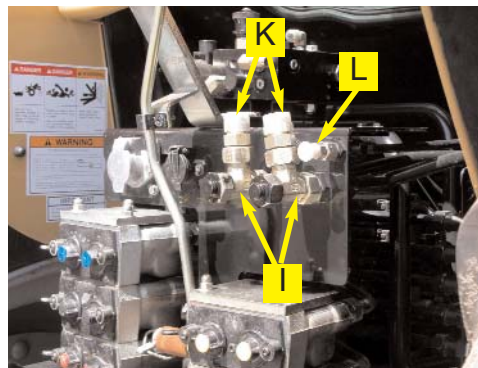

Figure 3b. Installed pressure, tank, and load sense fittings.
- c. Install the provided run tee (I) to the pressure and tank ports and reinstall the caps to the ends of the run-tees. Install the adapter fitting (K) onto the branches of the run-tees to allow for hose installations. Install the adapter fitting (L) to the load sense port as shown. (Figure 3b)